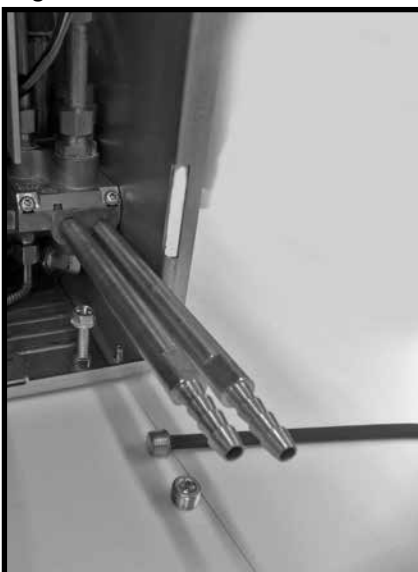

Figure 41: Testing port caps with thread sealant.
6. After testing is finished turn off gas supply, remove the pressure gauges, apply thread sealant to cap ends and re-tighten (Figure 41).